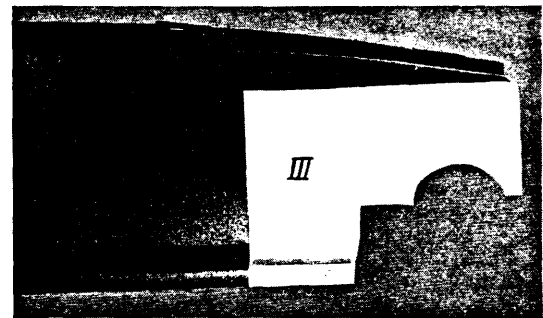

Fig. 7
- 11 - Cut instrument panel cover to template III, install lining again and secure it. Fig. 7.